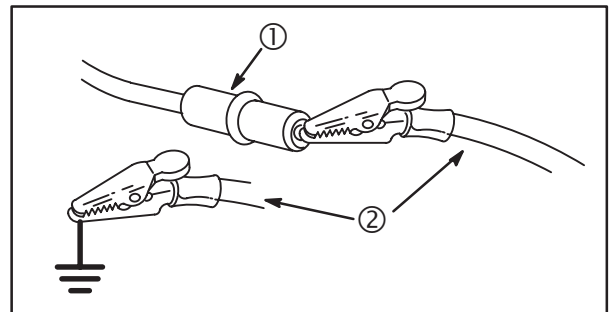

Fig. 15
2. Activate idle down device, or ground BLUE wire (1) from control module using a jumper wire (2), **Fig. 15**.